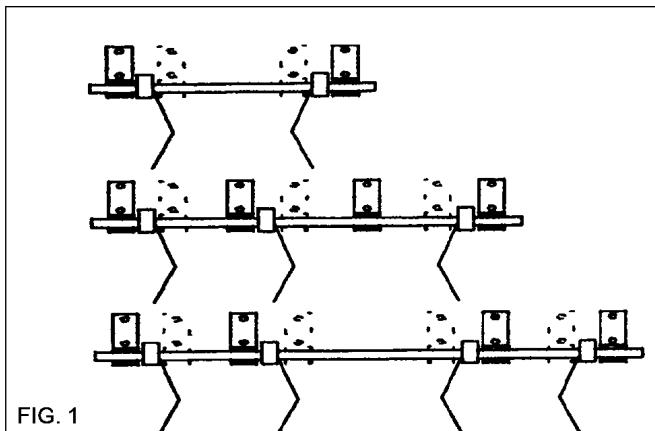

FIG. 1
- Die Wandkonsole montieren wie in Fig. 1 angegeben.
- The wall brackets are positioned just left or right of the arm brackets (fig. 1).
- Place the wall supports as indicated on fig. 1 ( 4 arms ).